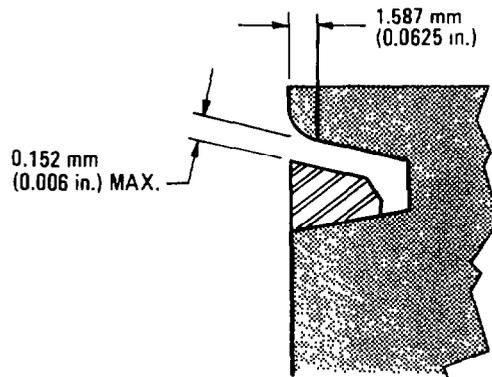

Fig. 78 — Side Clearance Measurements — Keystone Rings
- g. Use a feeler gauge to measure the ring side clearances in their respective grooves; the Keystone rings must have a side clearance of not more than 0.152 mm (0.006 in.) measured with the ring face flush with the piston (see fig. 78).